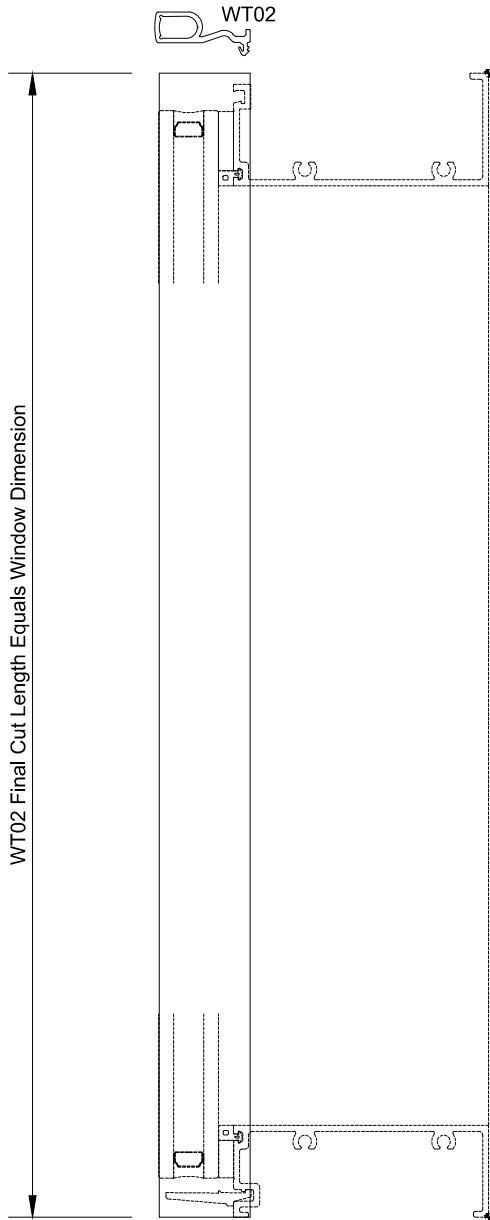

**Fig. 4**
- E. Install backer rod and a continuous seal across the void between the glass and 5J62. Return the seal around the ends of the glass lite. See Fig. 4.